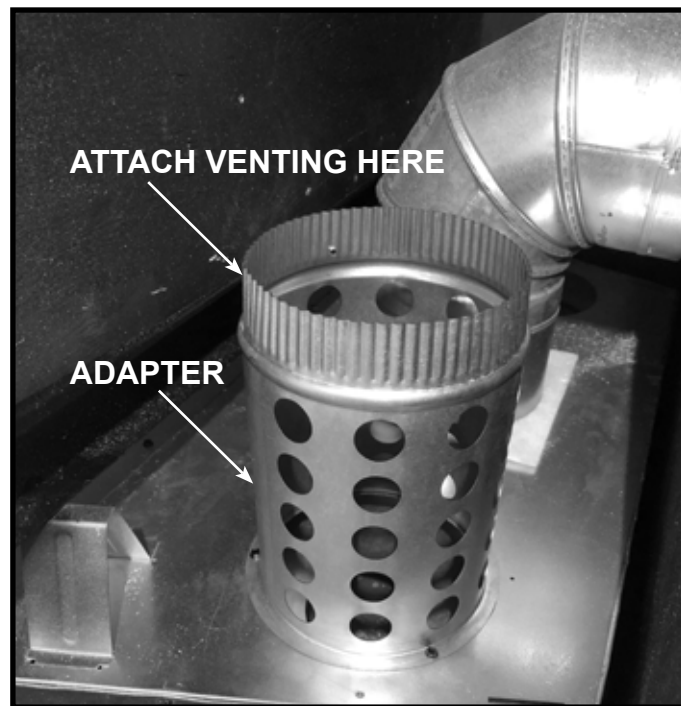

Figure 15 Adapter Prepared for Venting to be Attached
- Remove cap from the Passive Heat adapter and discard the cap. The venting for the Heat-Zone-Gas kit will attach directly on top of the Passive heat adapter. See Figure 15.